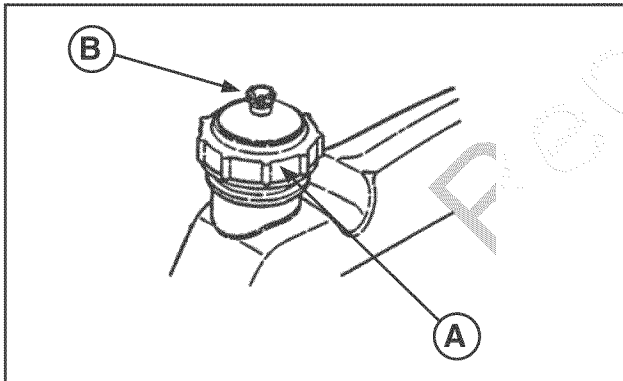

FIGURE 1
1. Add fuel to the fuel tank after pushing the machine outside where fumes can dissipate. Make sure the fuel filler cap (A, Figure 1) is tight, and the vent (B) is open after refueling. If the vent is not opened, the engine will stall.